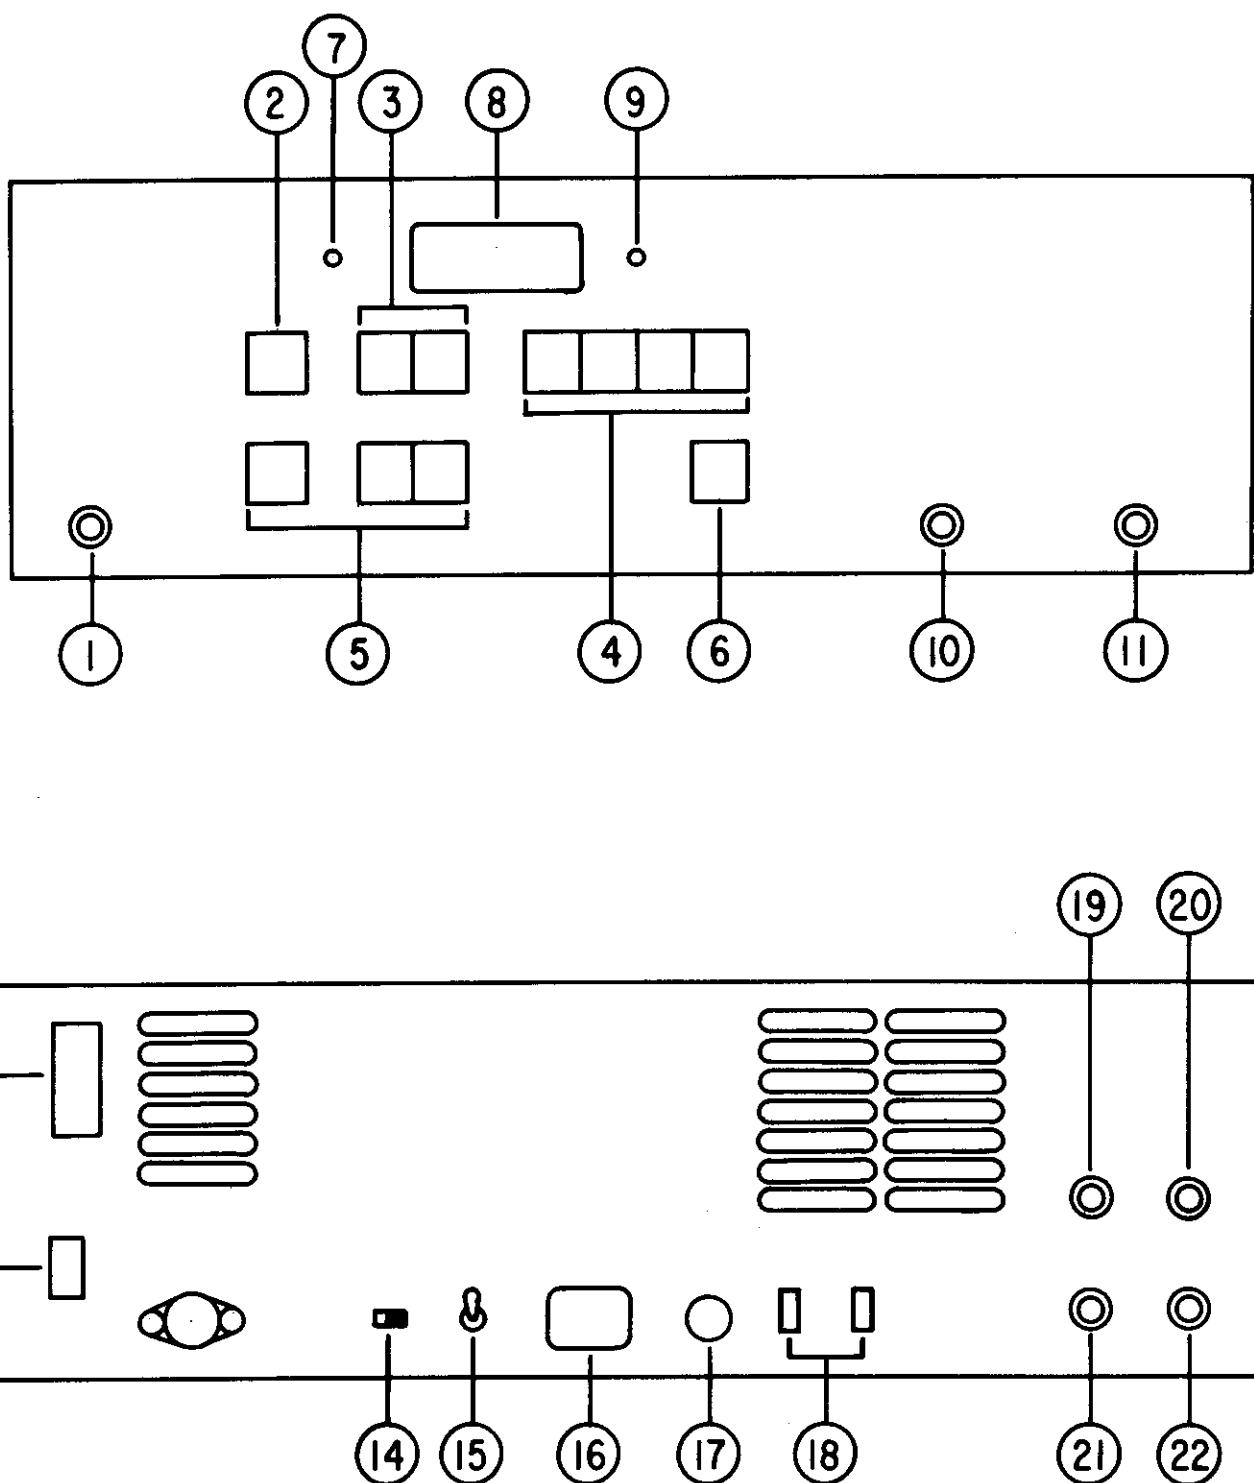

Figure 3. Operating Controls, Connectors and Display.
2.4 OPERATING CONTROLS, CONNECTORS AND DISPLAY (Figure 3)